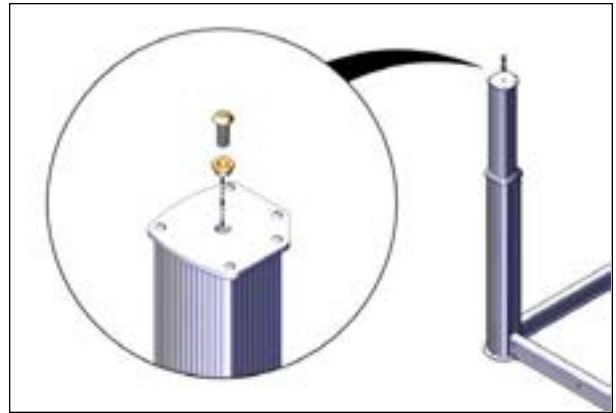

FIGURE 62: FASTEN THE SLEEVE TO THE JACK
22. Install the 3/8" x 1" Allen screw with a 7/32" (5.5 mm) socket previously removed from the jacks, with the smaller diameter of the bushing facing down for each post see Figure 62.